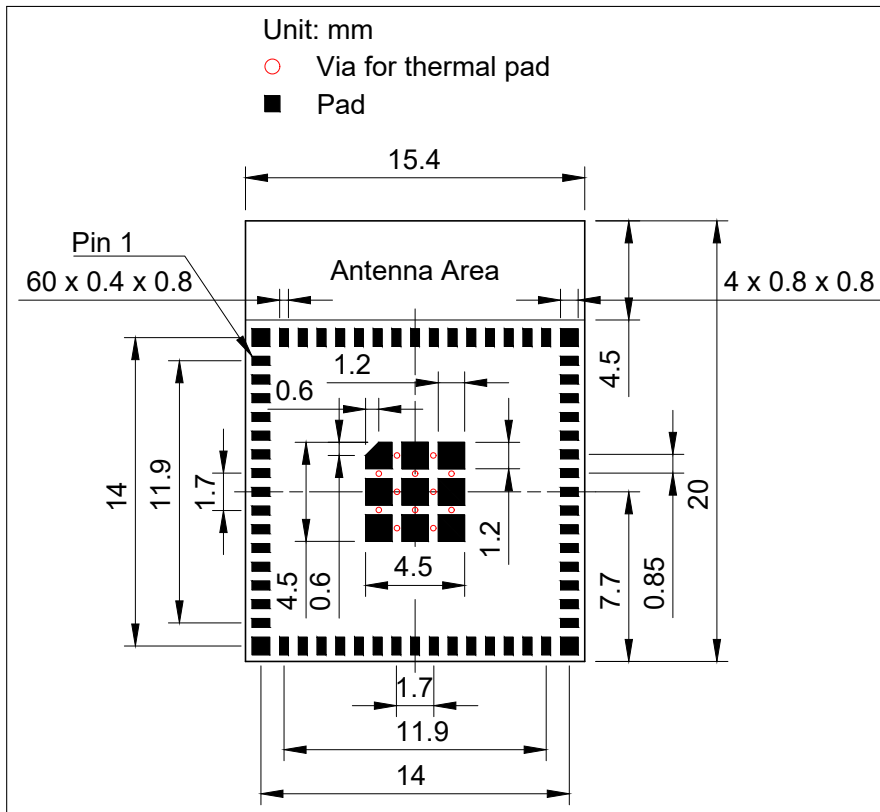

Figure 10: ESP32-S2-MINI-1 Recommended PCB Land Pattern
- Figures for recommended PCB land patterns with all the dimensions needed for PCB design. See Figure 10 *ESP32-S2-MINI-1 Recommended PCB Land Pattern* and Figure 11 *ESP32-S2-MINI-1U Recommended PCB Land Pattern*.
- Source files of recommended PCB land patterns to measure dimensions not covered in Figure 10 and Figure 11. You can view the source files for ESP32-S2-MINI-1 and ESP32-S2-MINI-1U with Autodesk Viewer.